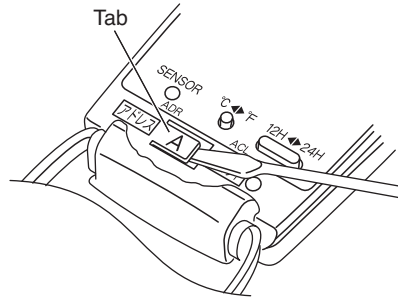
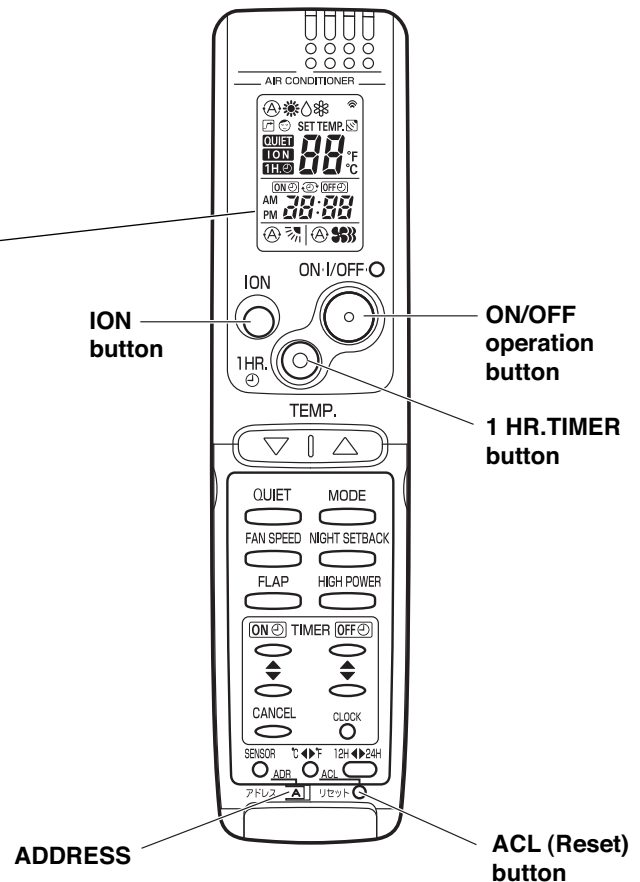

Fig. 62
Fig. 64
- (1) Switch on the power source.
- (2) Break the address-setting tab marked “A” on the second remote controller to change the address (Fig. 62). When the tab is removed, the address is automatically set to B (Fig. 63).
- (3) Press and hold the remote controller ION button and 1 HR. TIMER button. At the same time, press the ACL(reset) button. Use a thin object such as the tip of a pen to press the ACL button. When this has been done, “oP-1” (test run) appears, blinking, in the remote controller clock display area.
- (4) Each time the 1 HR. TIMER button is pressed, the display changes as shown below. Press this button 2 times to change the display to “oP-7” (address setting). (Fig. 64)
- (5) “oP-7” has now been selected for address setting.
- (6) Press the ON/OFF operation button on the remote controller. (Fig. 64) Check that the “beep” signal-received sound is heard from the second indoor unit (approximately 5 times). The sound you hear is the signal that the remote controller address has been changed.
- (7) Finally press the remote controller ACL (reset) button to cancel the blinking “oP-7” display. (Fig. 64)